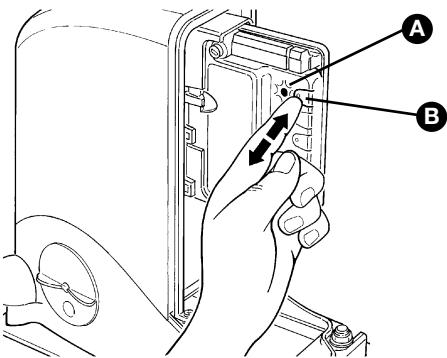

Figure 71
- 1 Press and hold down button P1 [B] (Figure 71) on the control unit.